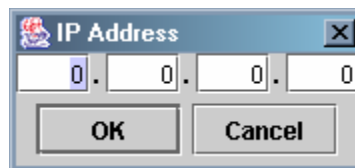

Figure 60 SANsurfer iSCSI HBA Manager, Target settings, IP Address dialog
- ◆ To add your target, click the green + on the right side of the **Target Settings** tab to get the **IP Address** dialog, as shown in Figure 60. Enter the IP address of your target port, and click **OK**.